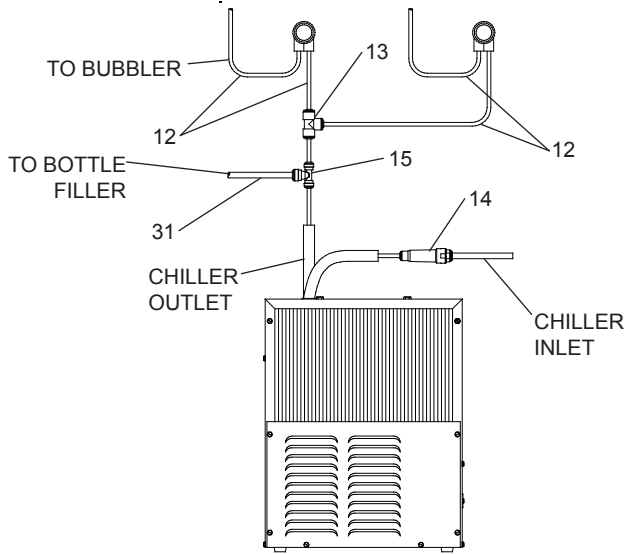

Figure 2 - EZWS-ERPBM28K Tube Routing
- 3a. (For EZWS-ERPBM28K) **Install** strainer on the input tube to the chiller (Fig. 2).